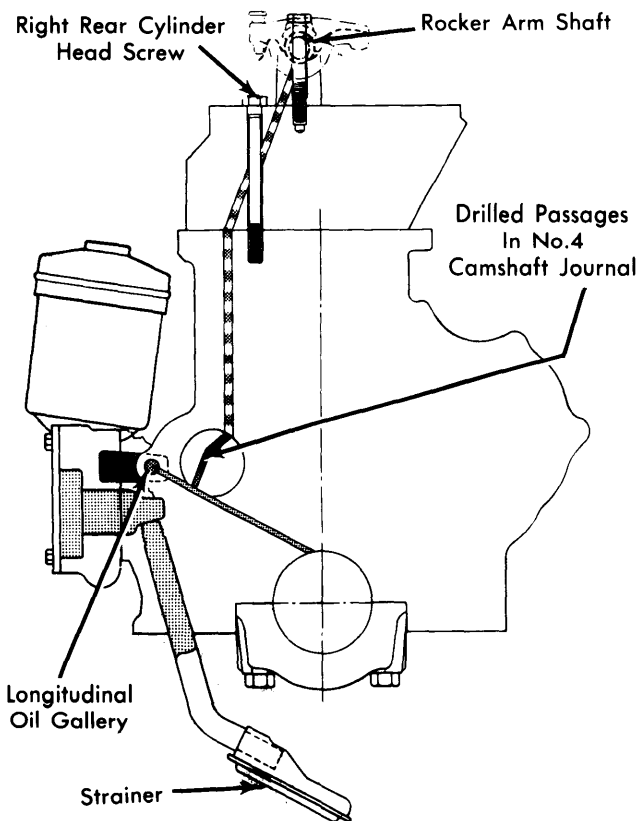

Fig. 15 Schematic of Engine Oiling System
2) Pump delivers oil directly into main oil gallery extending along right side of crankcase. See Fig. 15.